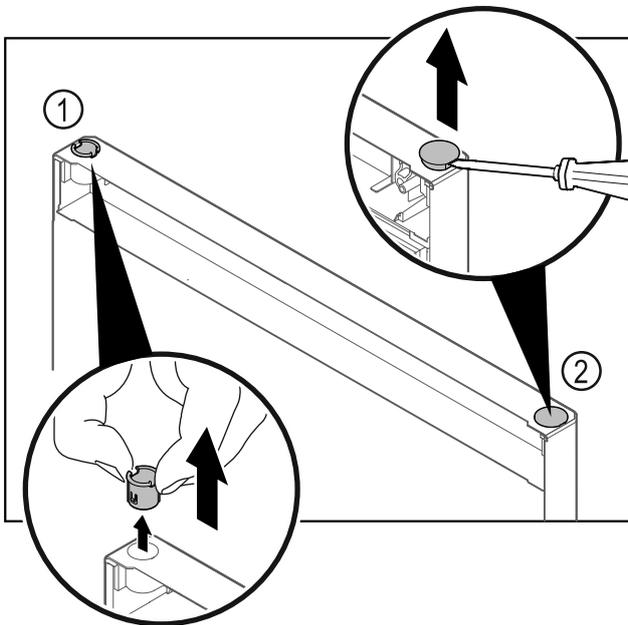

Fig. 20
- ▶ Pull out the hinge bushing Fig. 20 (1) with your fingers.
- ▶ Carefully lift the cover plug Fig. 20 (2) with a slotted screwdriver and pull it out.